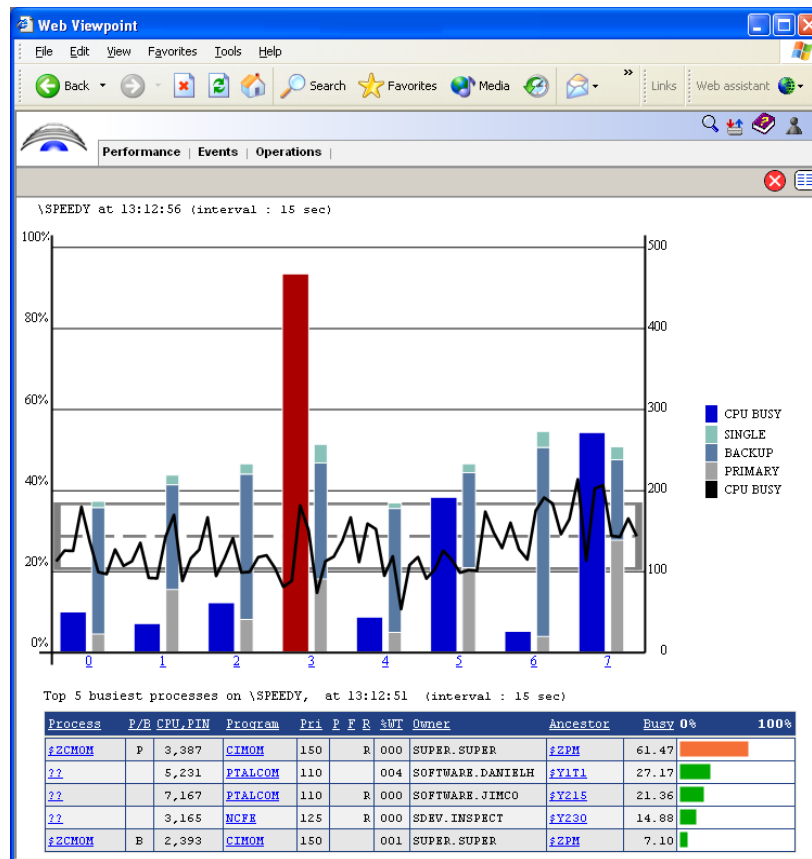

Figure 4. Real-time processor and busy-list monitor.
- Select and monitor one or more (up to 14) processor performance attributes. Chosen attributes will be graphed at set intervals. You can display data simultaneously for multiple attributes and processors and select the order in which they are graphed (see figure 4).